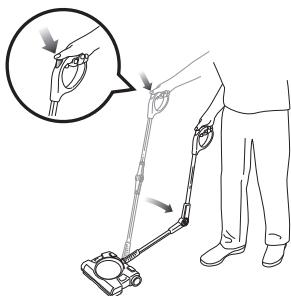

Fig. 5
- 3** To clean under furniture, use the Shark® Backsaver™ folding handle. Press the handle release button and apply a bit of pressure to bend the handle forward. **(fig. 5)** The Shark® Backsaver™ joint will release from the locked position to reach messes under furniture. **(fig. 6)**